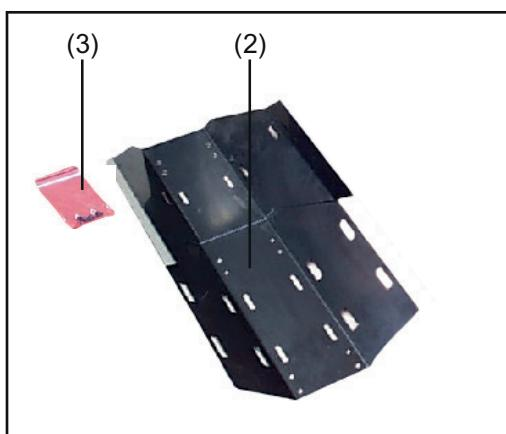
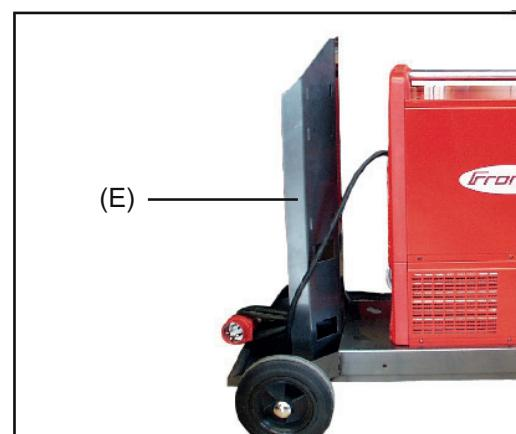

Fig. 2 Extension plate
Fig. 3 Gas cylinder holder
To enable the auto-transformer to be fitted on the „PickUp“ trolley together with the FK 4000/FK 4000 R cooling unit and power source, the auto-transformer is supplied with an extension plate (2) (Fig.2) for the gas cylinder holder (E) (Fig.3).